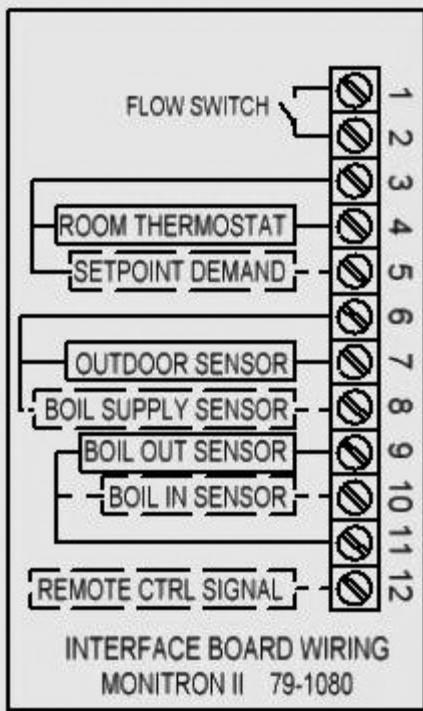

Figure 5. Electrical Connections
- The right-hand compartment under the Control Panel Cover contains a terminal board marked, (SLANT/FIN "INTERFACE BOARD"). Wire a 2-wire 24V room heating thermostat or the auxiliary end switch terminals of zone valves (see Figure 5) to terminals 3 and 4 at this time. The 1 and 2 terminals are for the flow switch. The flow switch circuit is a low voltage circuit.
Remove the Service Connection Panel (right hand front). Cover by removing 5 screws from the top, bottom and side flanges (see wiring diagram on back of the Service Connection Panel and Figure 5).
Close bypass valve. Turn down all zone thermostats. Inspect all zone valves to be sure all are closed. Put a jumper on thermostat terminals 3 and 4. Close ALL panels and turn on the 10 AMP control circuit breaker ONLY. Be certain that the flow switch wires are not connected to the flow switch terminals 1 and 2 and the ends of the wires are taped. Be certain that a jumperwire is between terminals 1 and 2. Connect the ohmmeter or other continuity tester across the flow switch common terminal and the terminal that is normally open during NO FLOW. Slowly open bypass valve until continuity tester lights or ohmmeter kicks to zero: flow switch now has closed contacts, indicating required minimum bypass flow rate when piping circuits are shut off. Bypass valves should be locked at this position. Shut OFF ALL circuit breakers ahead of and at boiler and open CONTROL PANEL (left hand) FRONT COVER. Remove jumper on thermostat terminals 3 and 4. Remove flow switch jumper wire from terminals 1 and 2. Connect flow switch wire to flow switch terminals 1 and 2. Connect zone valve end switches (in parallel) to thermostat terminals 3 and 4. See Figure 5 and wiring diagram on boiler. Replace CONTROL PANEL COVER.